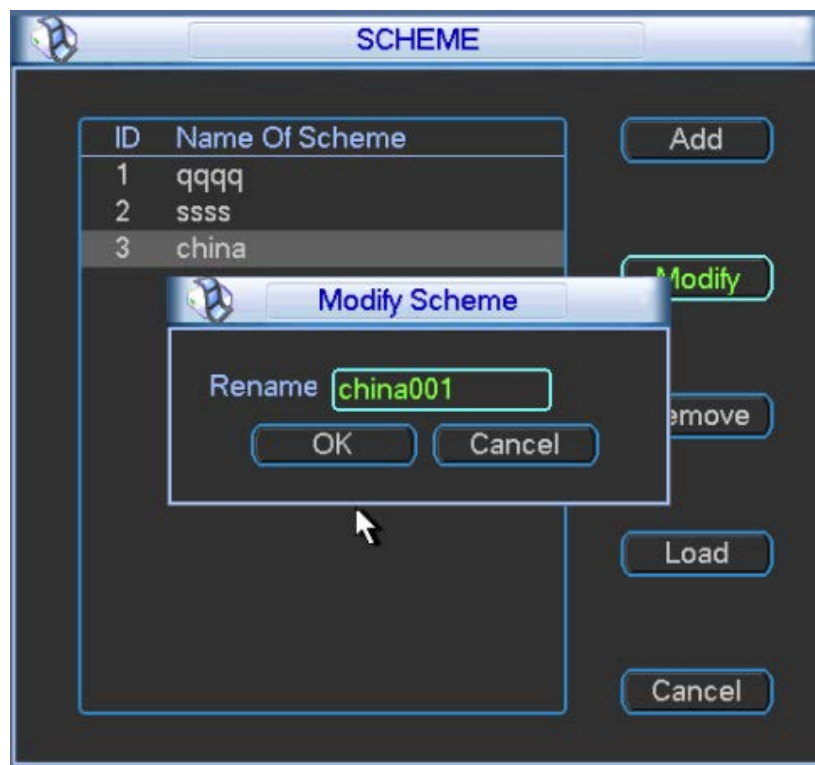

Figure 4-18
- Select a scheme and click "Modify" to rename it, as shown in Figure 4-18.